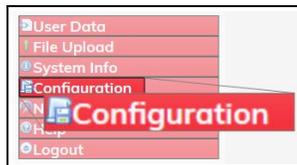

Figure 138: Configuration link
4. On the **Menu** list, click the **Configuration** link. Figure 138